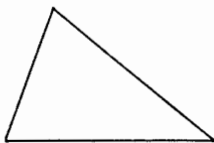

Fig. 33
27. An *Acute-Angled Triangle* is one which has all of its angles acute. Fig. 33.